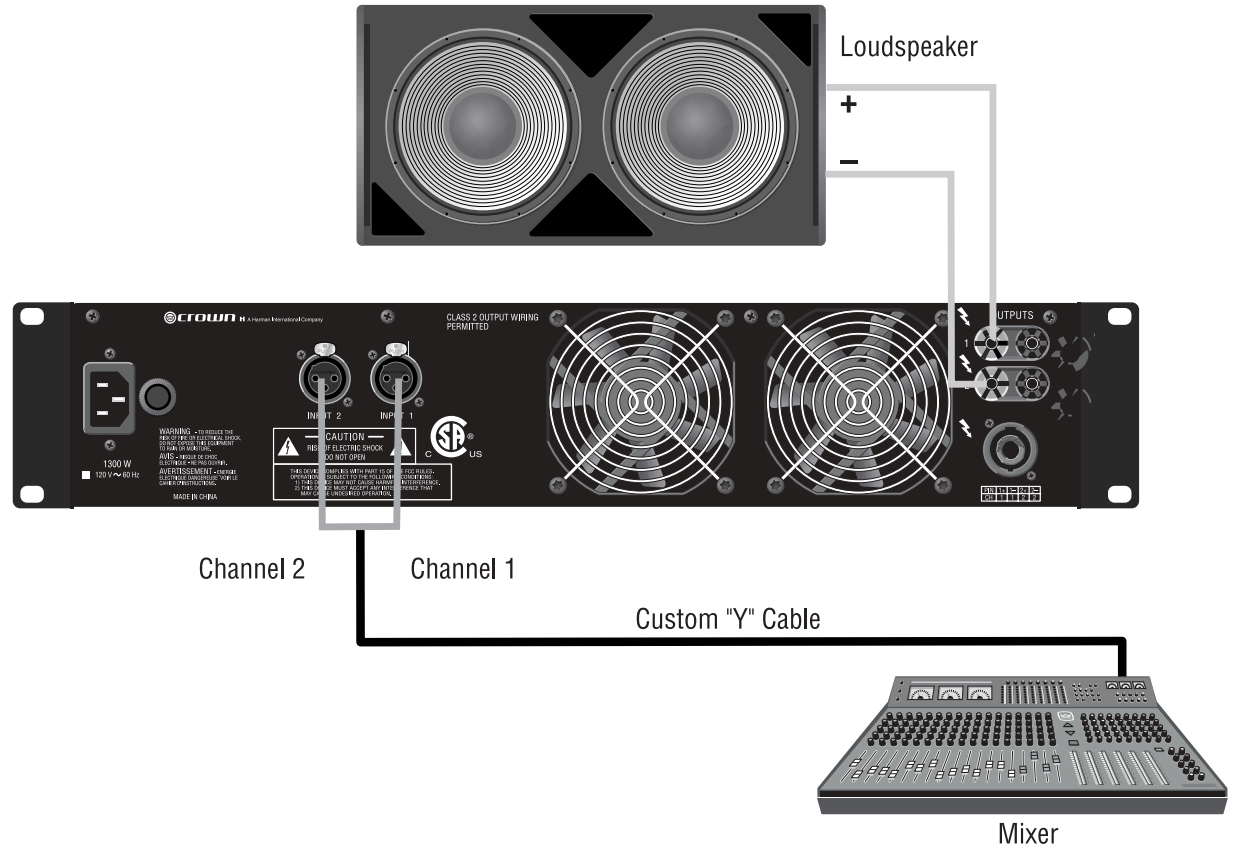

Figure 2.11 Bridge-Mono Wiring of Input and 5-Way Binding Post Output
Connect the Y adapter between the signal source and each amplifier input (Figure 2.11).
1) Wire the speaker across the red binding post of each channel (Figure 2.11). Do not use the black binding posts when the amp is being operated in Bridge-Mono mode.